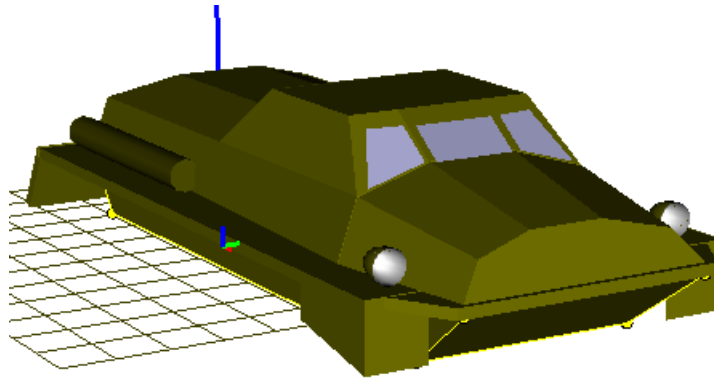

Figure 1.25. Hull image
1. Read an image of the hull from the UM database, Figure 1.25 by the **Edit | Read from file...** command, select the file `{UM Data}\Caterpillar\Profiles\Hull1.img`